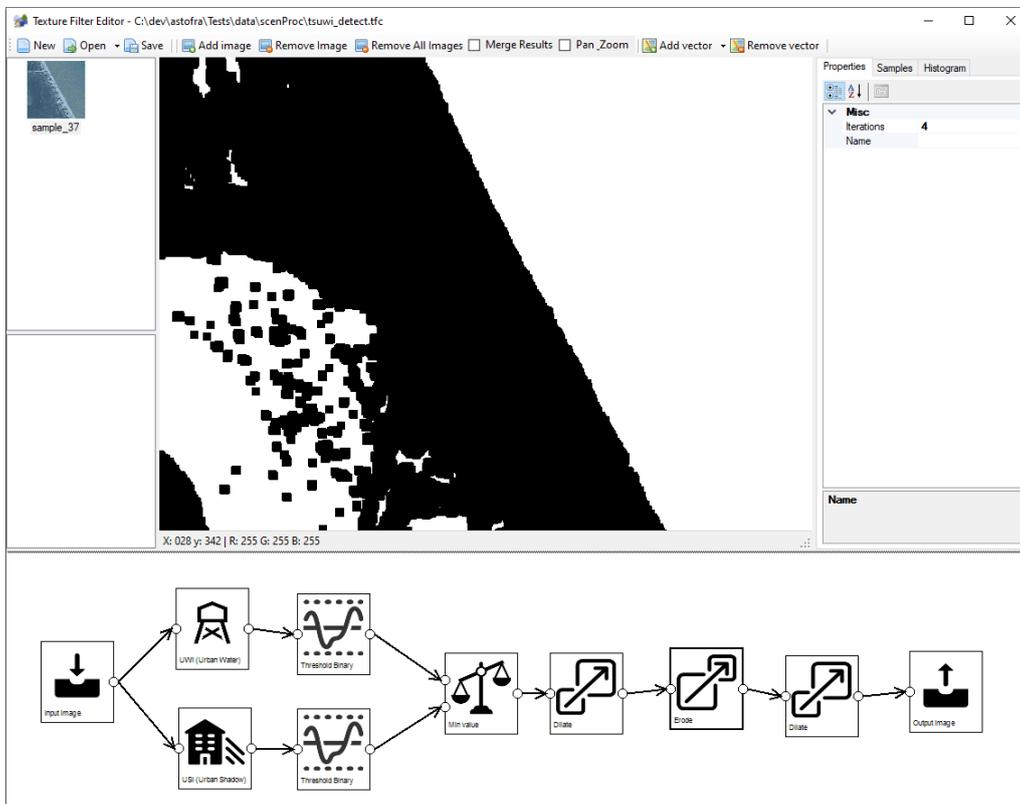

Figure 6.46: Dilating the result to fill holes in the water
8. Dilate step with 4 iterations to grow the detected water back and to make sure that tiny holes in the water are filled, see Figure 6.46.